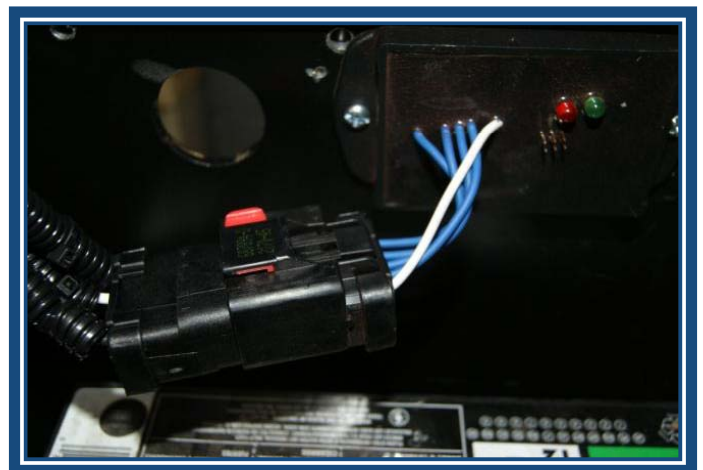

Figure 3
**Step 3:** Connect the Extender harness to the Extender using the 10 pin plug and receptacle. (See Figure 3)